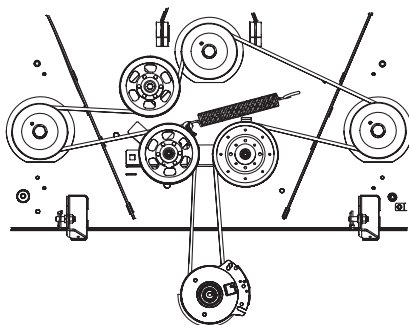

Figure 4-21
5. Install the new belt around the spindle pulleys as shown and reinstall the belt covers. See Figure 4-21.
7. Route the belt as shown in Figure 4-21 and then reinstall the deck. Refer to Deck Installation.